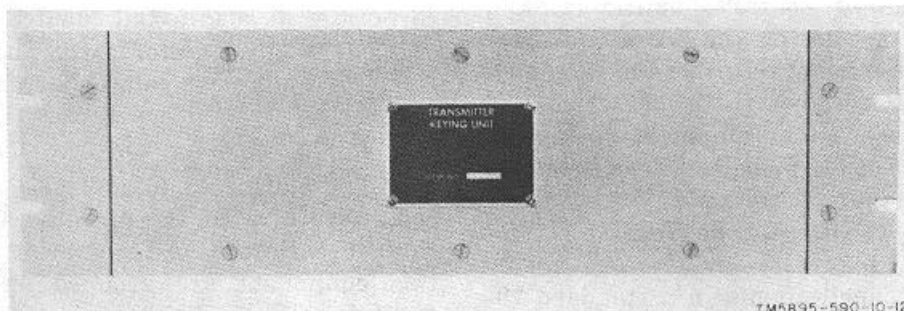

Figure 1-14. Controller, Channel Selector C-7685/FSQ-75(V).
(11) *Controller, Channel Selector C-7685/FSQ-75(V)* (fig. 1-14). The transmitter keying unit is a panel-mounted assembly consisting of relays, resistors, and connectors. Four mounting slots are provided to fit a standard 19-inch rack. Transmitter keying units activate control lines to remotely key the transmitters in the equipment shelter. Each unit controls from one to four transmitters. Units are mounted in groups of three in consoles 2, 4, and 7 to provide control of 12 transmitting channels.